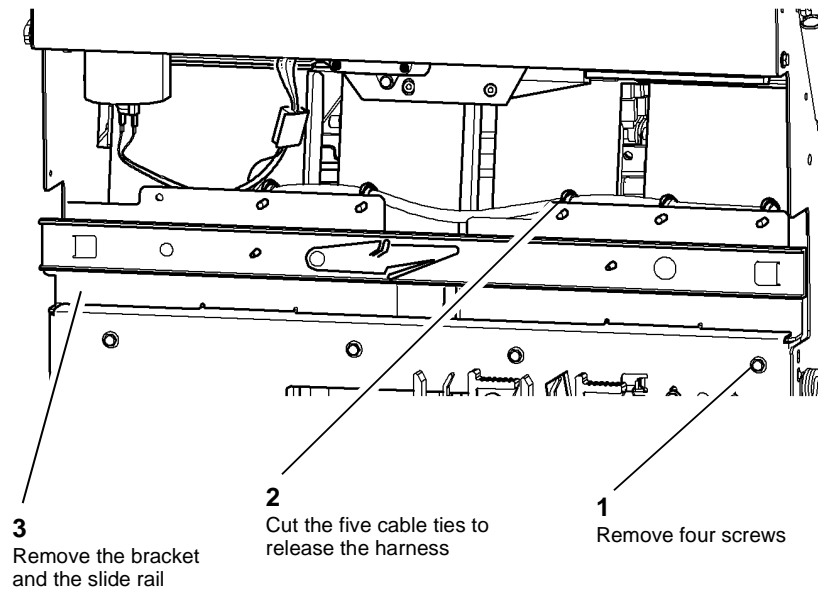

Figure 4 Remove the bracket and slide rail
6. **Figure 4.** Remove the bracket and the slide rail from the left side of the BM module.